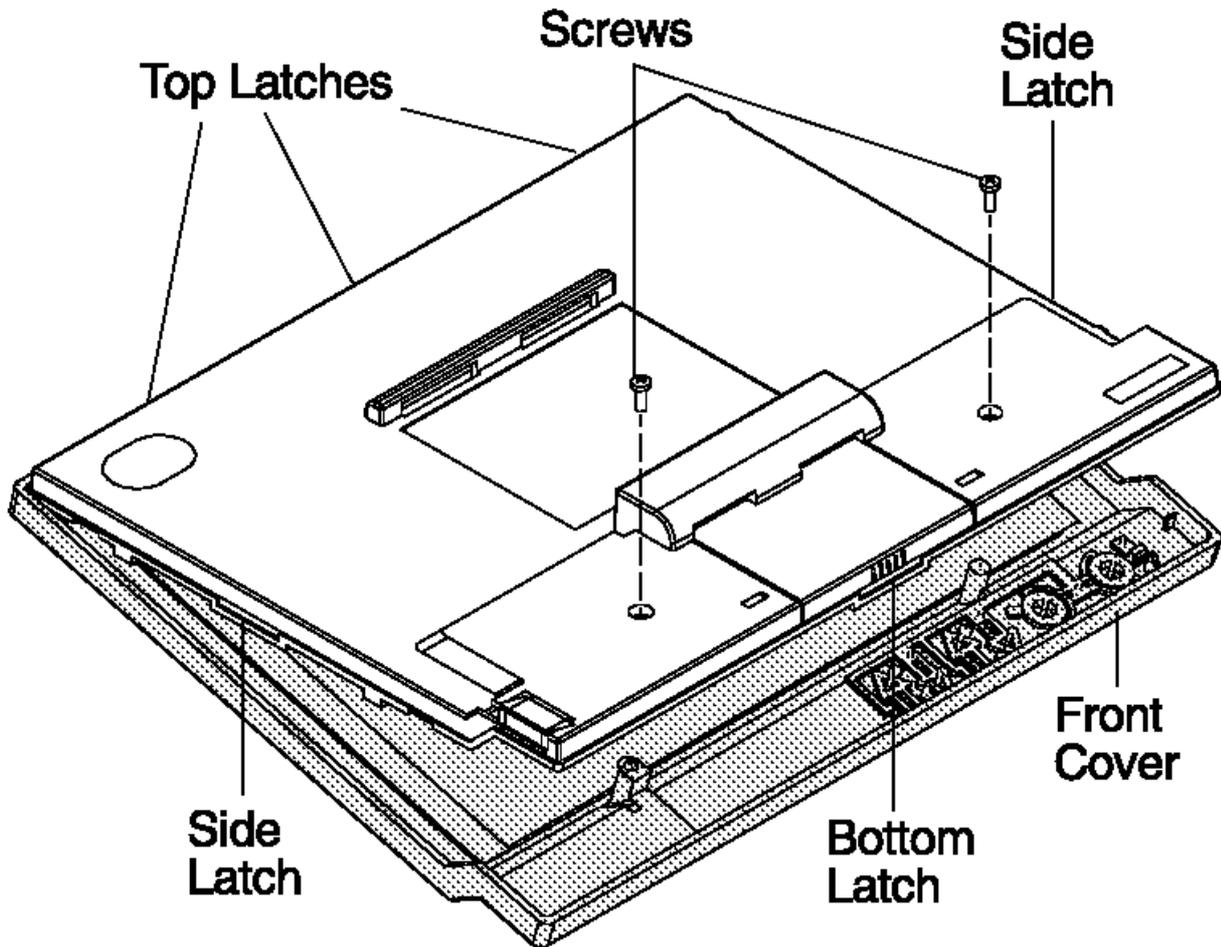

Figure 3-16. Removing the Front Cover
1. Remove the two screws. See Figure 3-16.
2. Open the front cover by gently prying and flexing the cover outward at the six latch locations shown in Figure 3-16. It is best to release at the bottom latch edge first. Then release the sides, leaving the top until last.